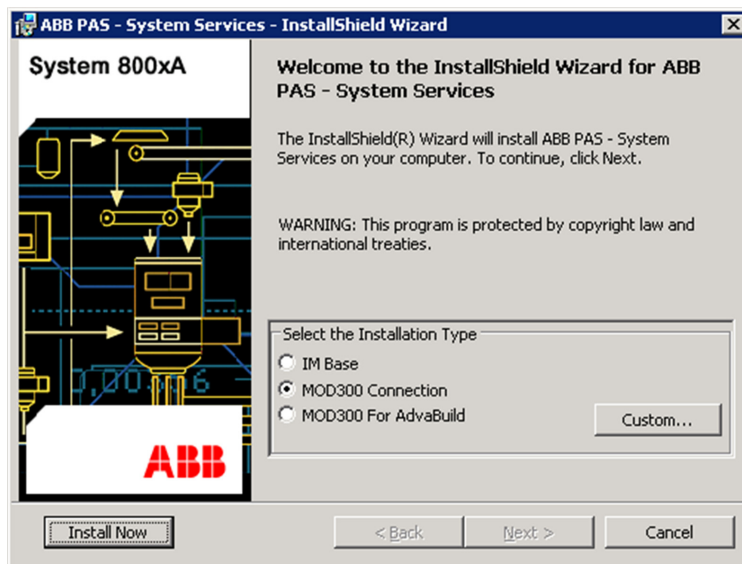

Figure 40. Welcome Dialog Box for ABB PAS System Services
1. The InstallShield Wizard for ABB PAS System Services dialog box appears, as shown in Figure 40.